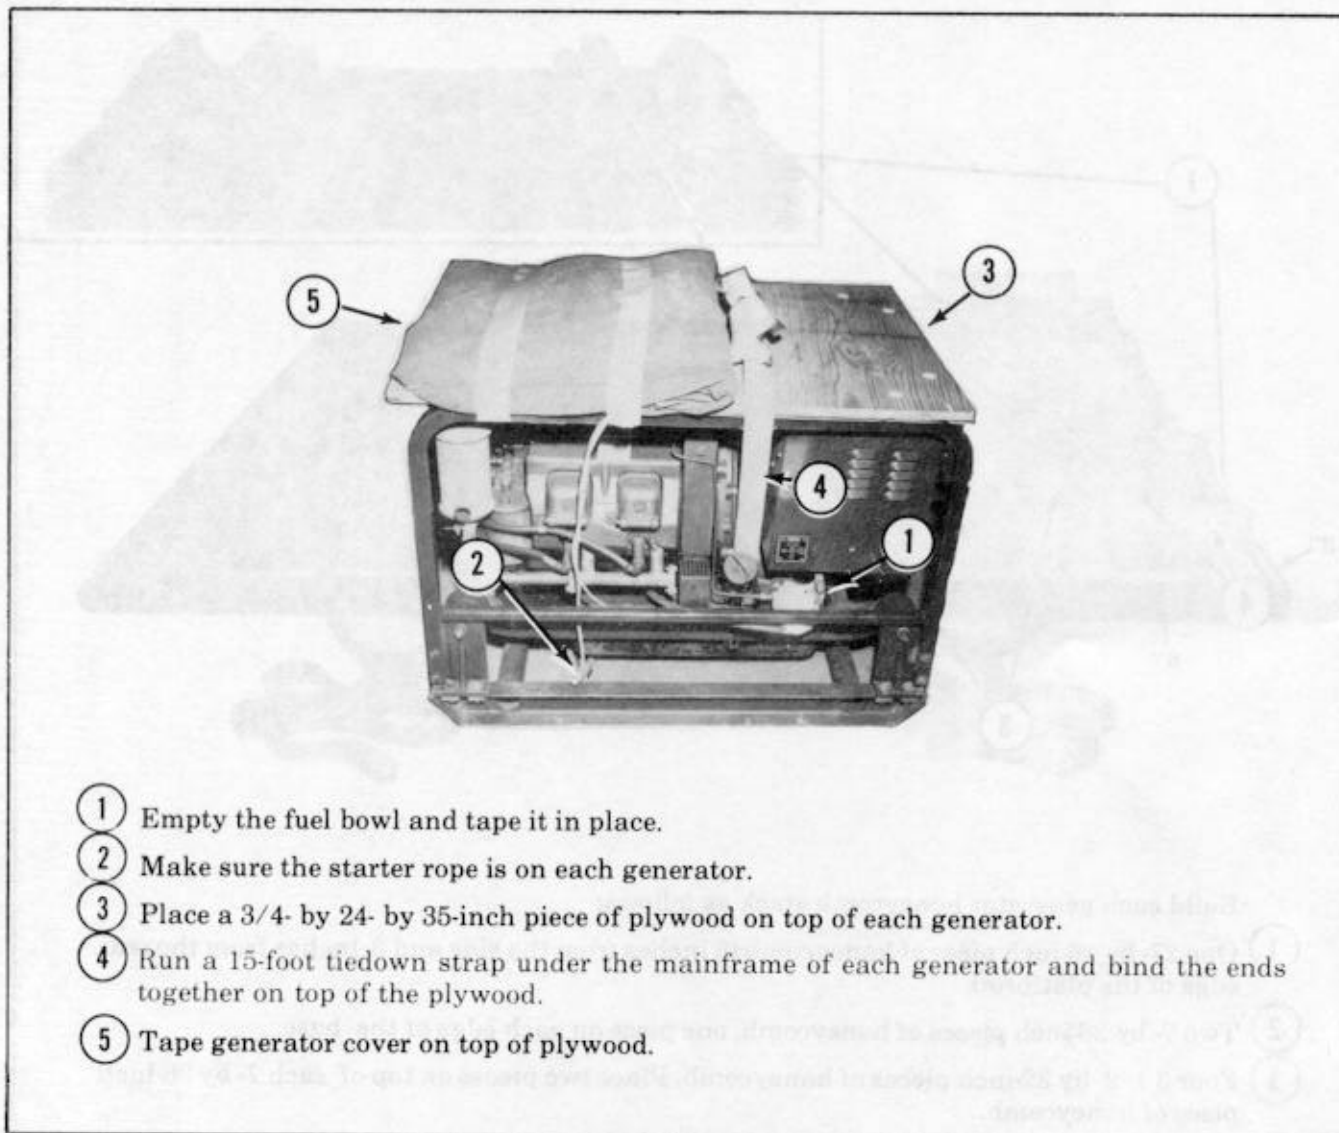
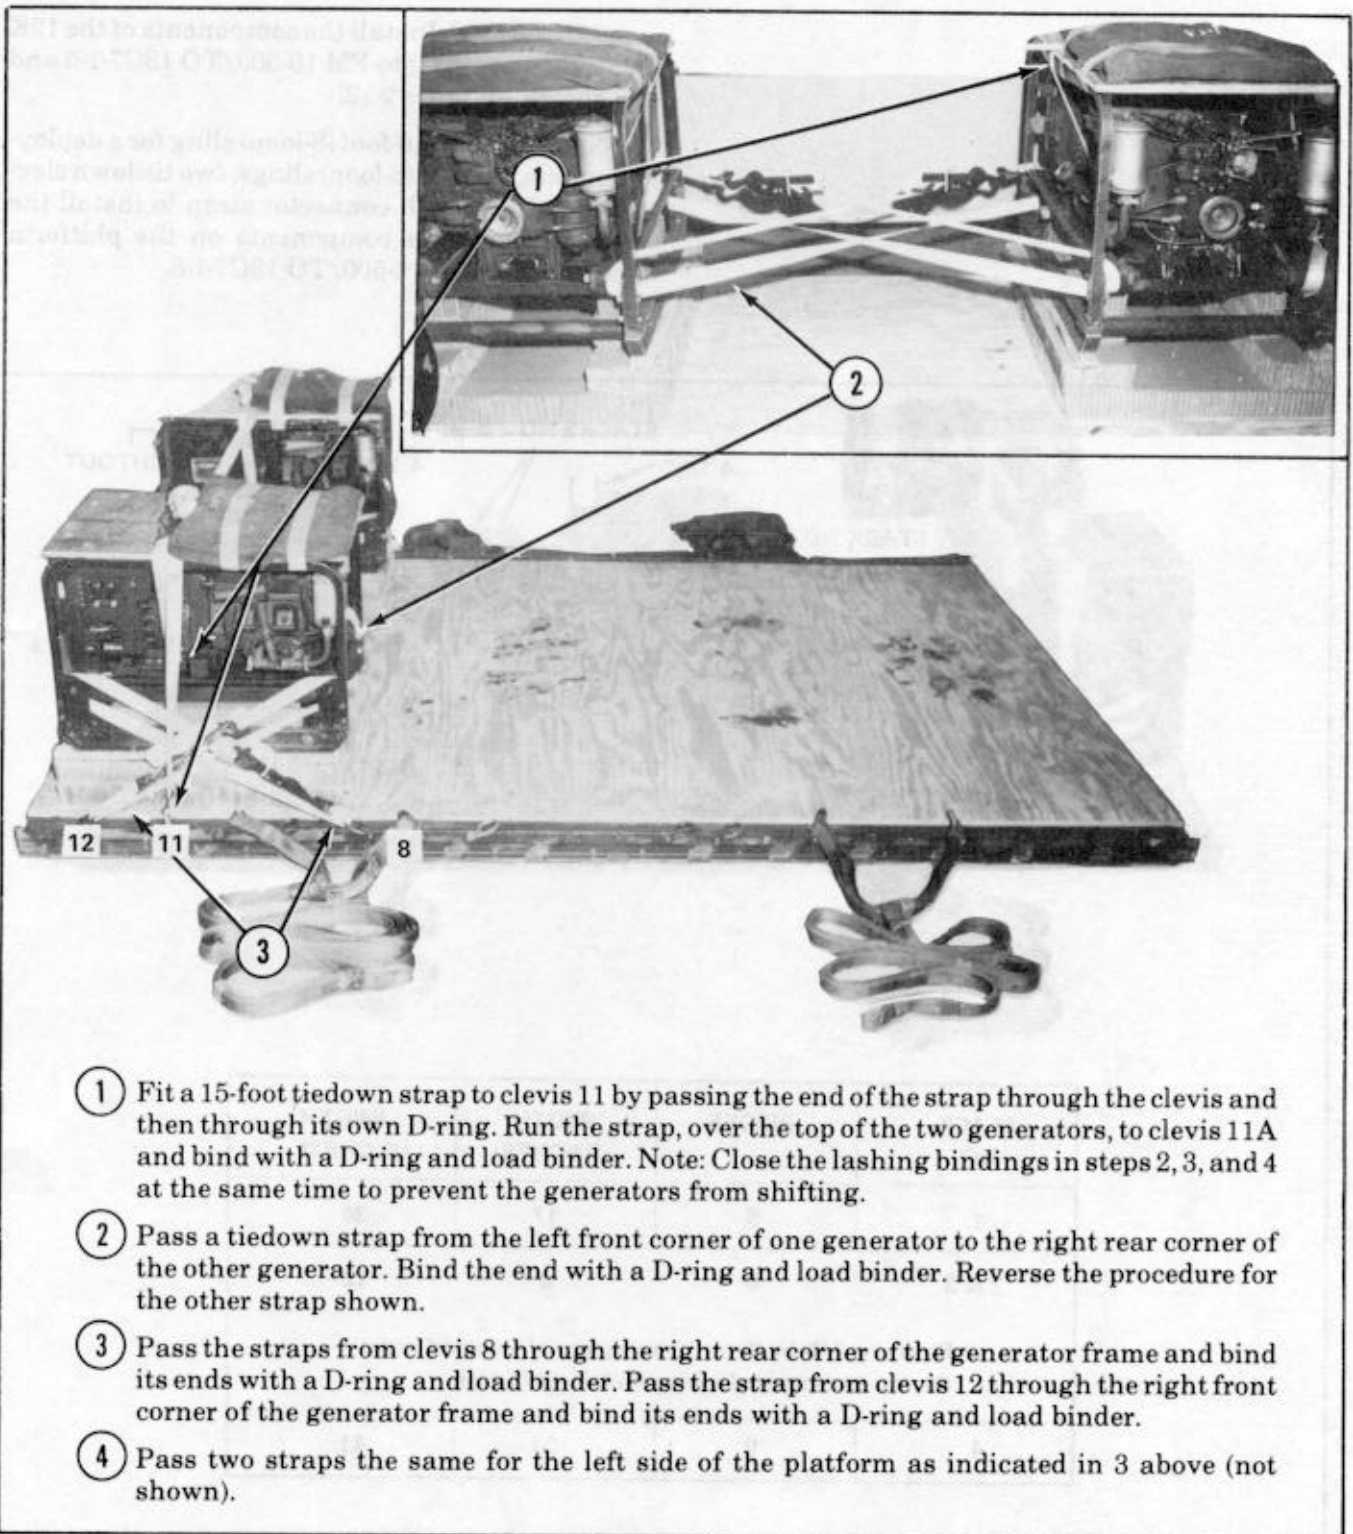

Figure 2-3. Preparing generator.
Figure 2-4. Lashing generators.
a. Preparing and Positioning Generators. Check the fuel level of each generator. Each tank should be no more than three-fourths full but no less than one-half full. Prepare each generator as shown in figure 2-3 and position generator as shown in figure 2-4.
b. Lashing Generators. Lash the generator to the platform with seven tiedown assemblies as shown in figure 2-4.